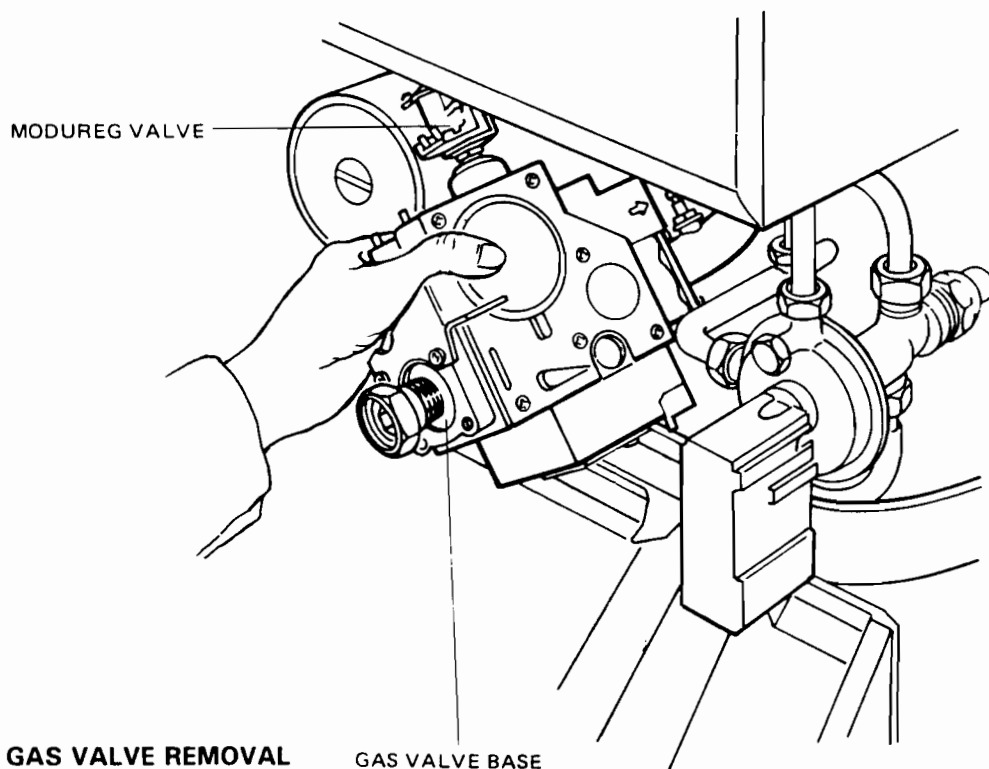

FIG. 36 GAS VALVE REMOVAL
19. GAS CONTROL VALVE AND FIRST SOLENOID VALVE (see Fig. 36)
- e) Undo the Union nut on the gas service cock and lift the gas valve assembly clear of the gas service cock. Pull the gas control forwards so that the assembly passes between the horizontal flow pipe and the control panel support frame. See Fig. 36.